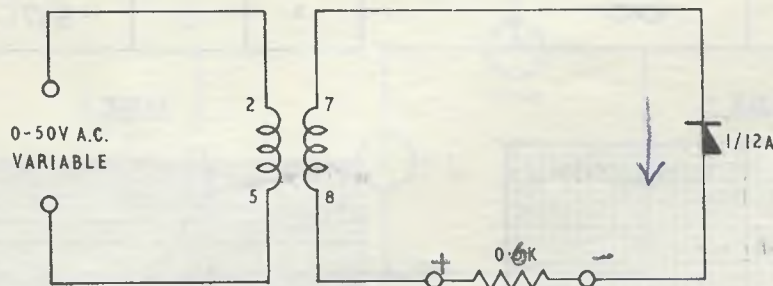

FIG. 1.
STEP 1. Connect the circuit as shown in Fig. 1.
STEP 2. Adjust the supply voltage to 20 Volts. Measure the P.D. across load resistor. Record value in Table 1 and polarity on Fig. 1.
STEP 4. Adjust the supply voltage to 20 Volts. Measure the P.D. across the load resistor. Record value in Table 1 and polarity on Fig. 1.